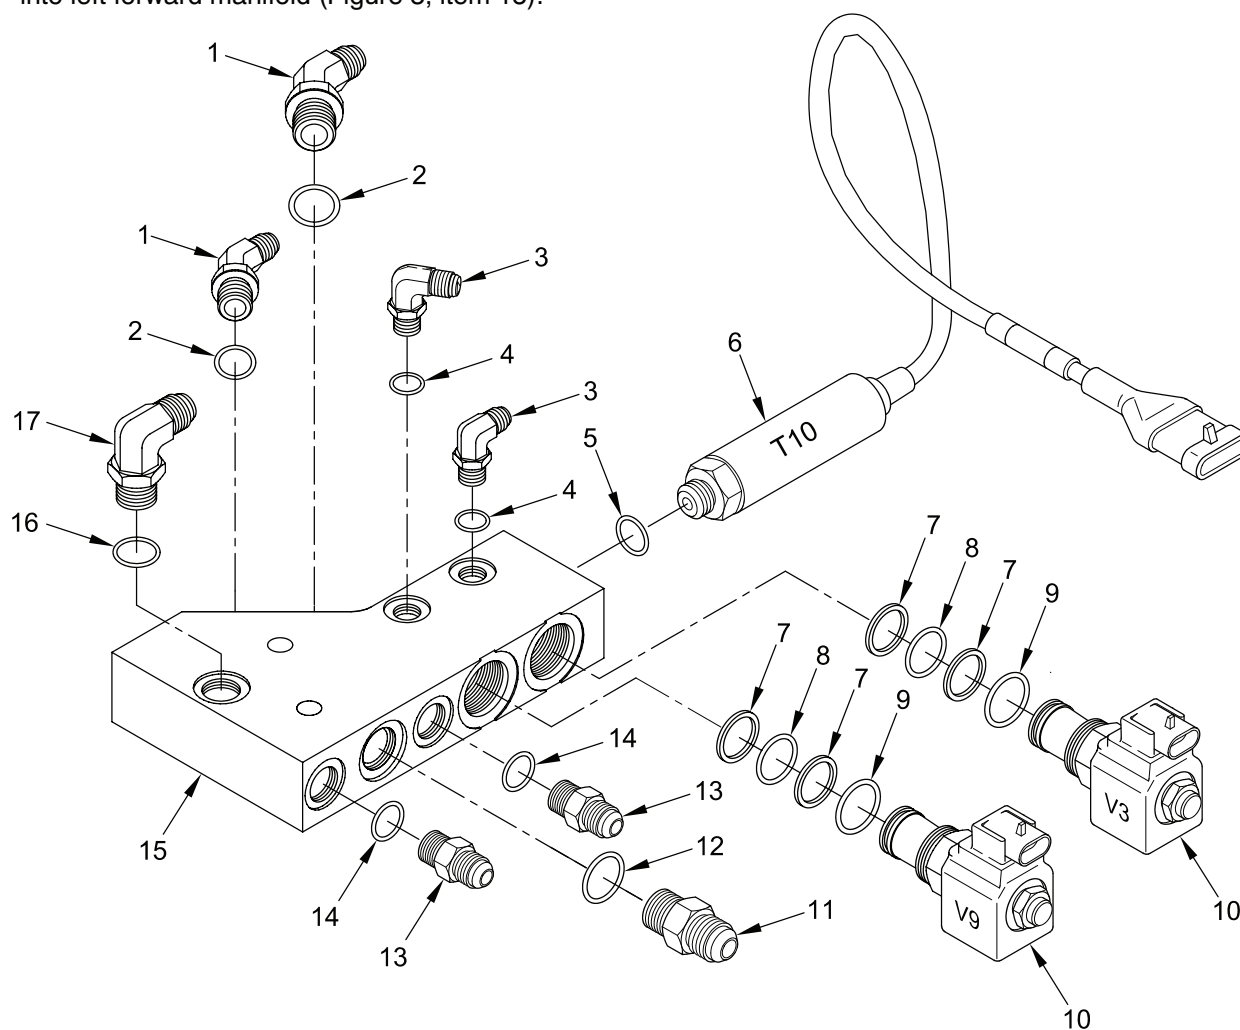

Figure 3. Assembly of HDC Forward Left Manifold
1. Install new o-ring (Figure 3, item 5), transducer T10 (Figure 3, item 6), two new o-rings (Figure 3, item 9), two new teflon backups (Figure 3, item 7), two new o-rings (Figure 3, item 8), two new teflon backups (Figure 3, item 7), and two two-way (NO) valves V3 and V9 (Figure 3, item 10) into left forward manifold (Figure 3, item 15).
2. Install two o-rings (Figure 3, item 2), two adapters (Figure 3, item 1), o-ring (Figure 3, item 16), adapter (Figure 3, item 17), o-ring (Figure 3, item 12), adapter (Figure 3, item 11), two new o-rings (Figure 3, item 14), two adapters (Figure 3, item 13), two new o-rings (Figure 3, item 4), and two adapters (Figure 3, item 3) into left forward manifold (Figure 3, item 15).